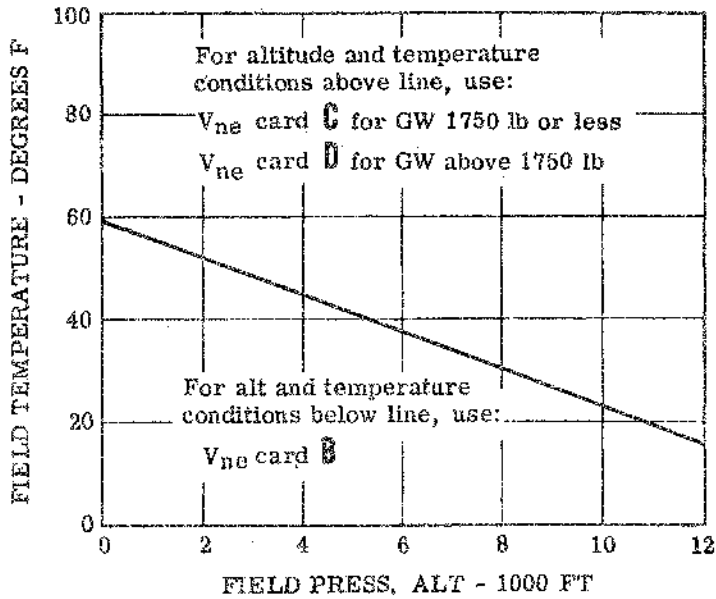

Figure 1. VNE Card Selection For Dual RPM Operation
- a. Select and position proper Vne card for aircraft takeoff gross weight, altitude and temperature (refer to Section I, figure 1).